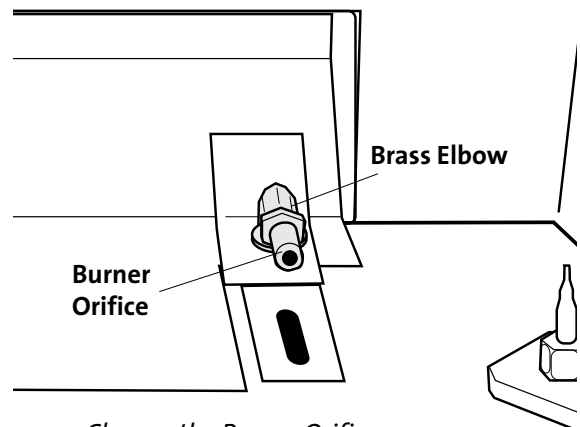

Figure 23. Change the Burner Orifice.
8. Change the Main Burner Orifice. See fig. 23. Using a 1/2" open ended wrench or deep-well socket remove the burner orifice from its brass elbow housing and replace with the appropriate orifice supplied in the kit.